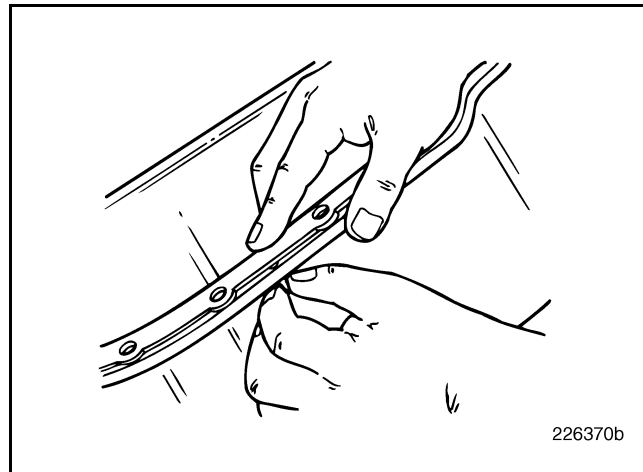

Figure 273 — Locating Cone Installation
4. In one motion, firmly press down on the gasket with one hand while carefully pulling the rubber cone through the hole with the other hand until seated (Figure 273). Continue this procedure for the remaining locating cones.